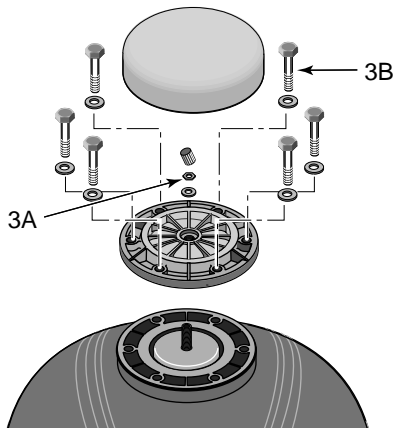

Figure 3: Remove Weather Cover, Valve Cap and Retaining Nut, and Top Flange Assembly
4. Remove valve cap, hex nut and washer from valve (see Figure 3, item 3A).
5. Remove capscrews from tank top flange assembly and remove flange (see Figure 3, item 3B).